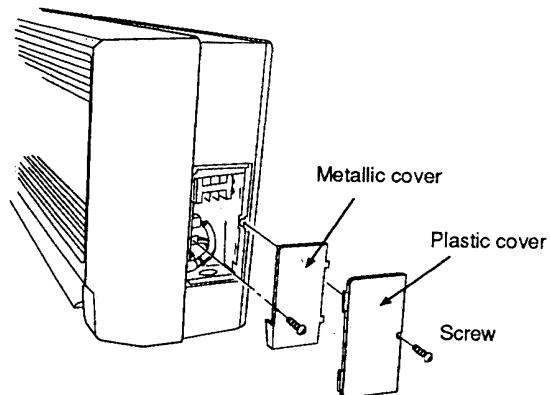

Fig. 1a
- a) Unscrew the plastic cover and the metallic cover. (Fig. 1a)